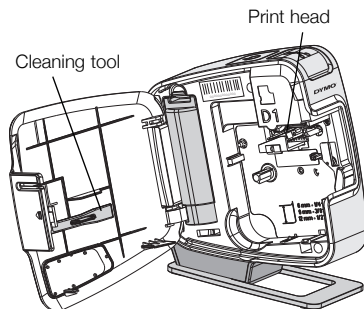

Figure 7
- 4 Remove the cleaning tool from the inside of the cover. See Figure 7.